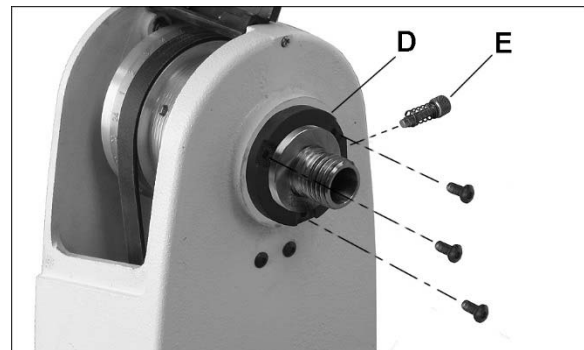

Figure 30
8. Remove three button head screws to loosen cover (D, Figure 30). NOTE: When cover is loosened, the spindle lock assembly (E) may pop out with its spring. Be careful not to lose these parts.
- to place cover (D, Figure 30) onto spindle *before* inserting spindle into headstock.
- to insert spindle lock with its spring (E, Figure 30) before tightening cover.